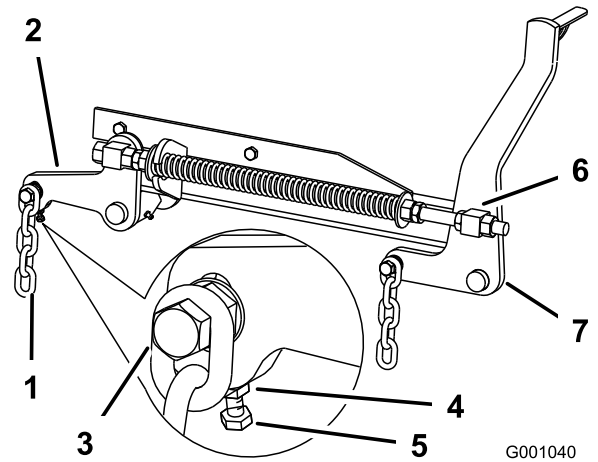

Figure 84
7. If the measurements at positions **B** or **C** are not correct, loosen the bolt attaching the rear chain to the rear-support arm (Figure 84).
8. Loosen the jam nut under the rear-support arm and adjust the adjustment bolt to get a measurement of 80 to 83 mm (3-1/8 to 3-1/4 inches); refer to Figure 84.
7. Loosen the front swivel jam nuts, at the front of the right and left swivels, approximately 13 mm (1/2 inch) (Figure 84).
8. Adjust the lift nuts on both the left and the right side of the machine to achieve 6 to 10 mm (1/4 to 3/8 inch) lower in front at **A** than in the rear at **B** (Figure 84).